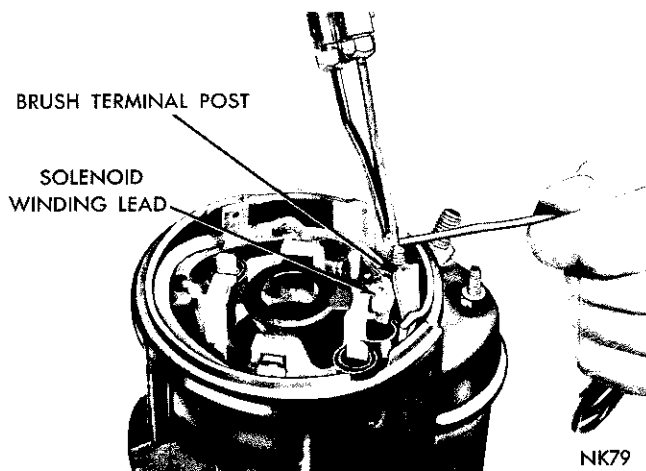

Fig. 22—Soldering the Solenoid Winding Lead to the Brush Terminal
(14) Wrap the solenoid lead wire tightly around the brush terminal post as shown in Figure 22 and solder securely with a high temperature resin core solder and resin flux.
(17) Position the brushes with the armature thrust washer as shown in Figure 22. This will hold the brushes out and facilitate proper installation of the armature.